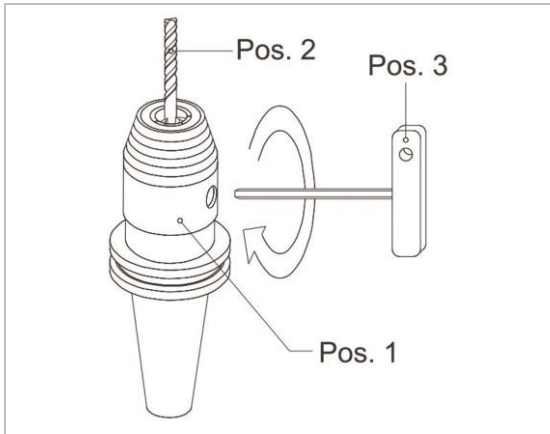

Figure 6: Clamping tool.
3. Turn the pinion clockwise to the stop with the aid of the hex-wrench (see "Figure 6: Clamping tool." Pos. 3).